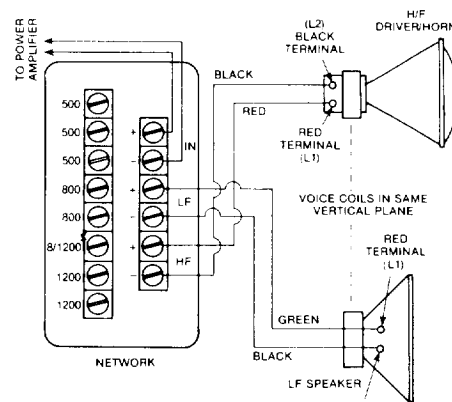
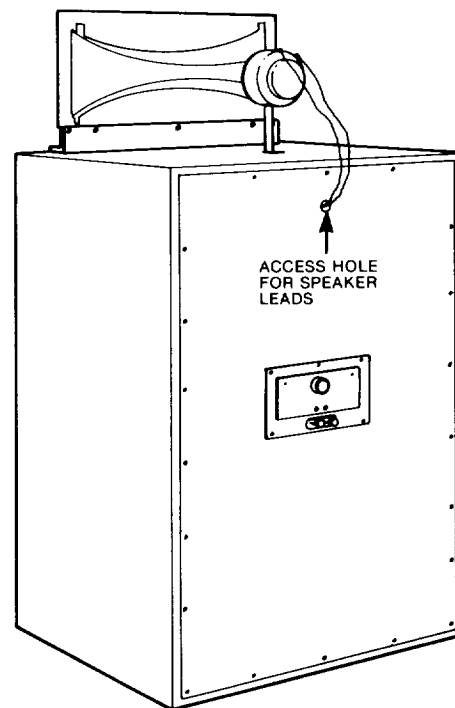

Figure 7. System Interconnect System
Figure 8. Externally Mounted HF Horn System, Rear View
- Using wire leads supplied with network, interconnect components as shown in Figure 7. Route leads to HF driver through 1/2" hole in rear panel. See Figure 8.
- Install rear panel and secure to cabinet with twenty No. 8 x 1 1/4" wood screws. Figure 8 shows panel (with network) installed. If desired, affix 'Voice of the Theatre' decals to sides of cabinet.